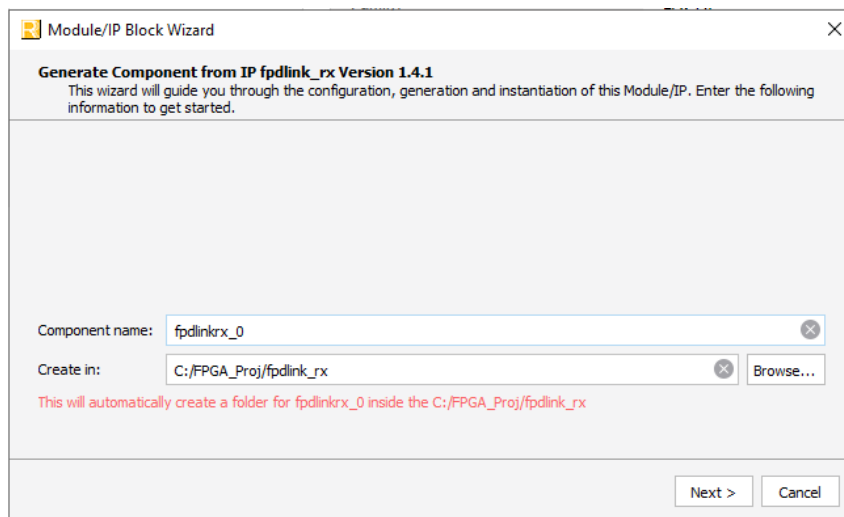

Figure 3.1. Module/IP Block Wizard
2. In the **IP Catalog** tab, double-click **FPD-Link Receiver** under the **IP, Audio_Video_Image_Processing** category. The **Module/IP Block Wizard** opens as shown in Figure 3.1.
- Click the **Finish** button. All the generated files are placed under the directory paths in the **Create in** and **Instance name** fields shown in Figure 3.1.